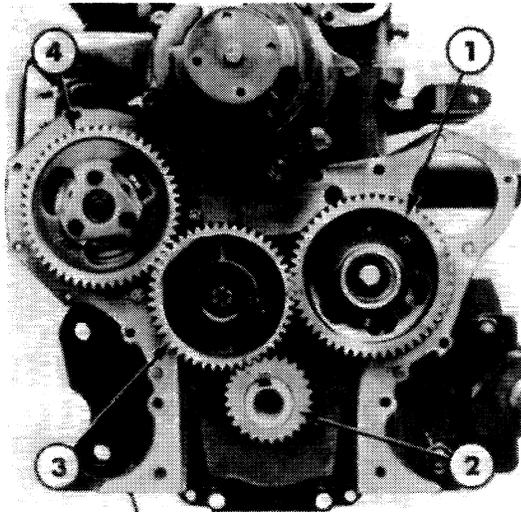
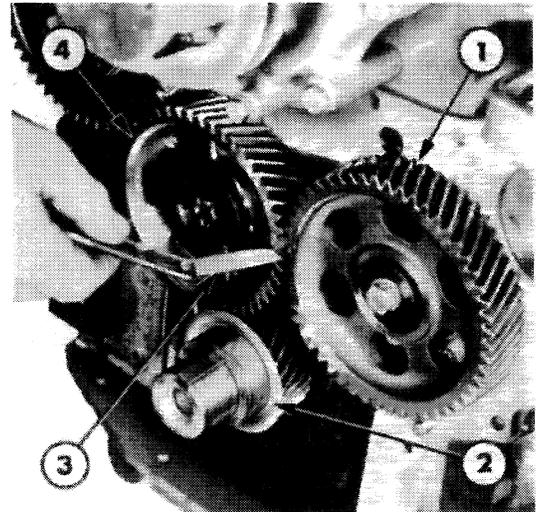

Figure 20
Figure 21
6. Before removing the timing gears, Figure 20, use a dial indicator or feeler gauges, to measure the backlash between each set of mating gears, Figure 21. Rotate the gears and check the backlash at four equidistant points on the gears. Renew the gears if the backlash exceeds the specified limits, see "Specifications"—Chapter 4.